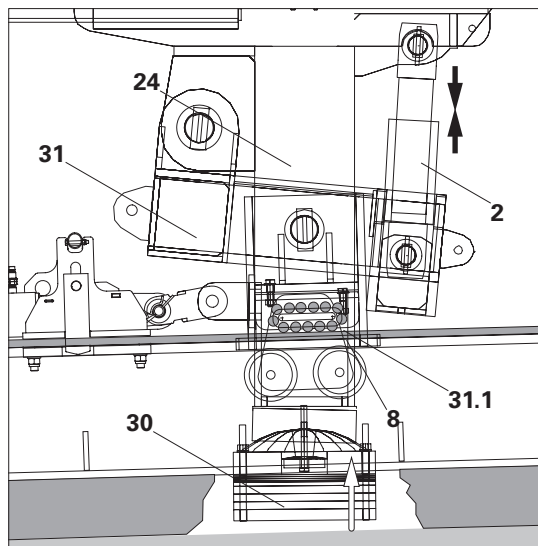

Fig. B4.05
- Front carriage is in drive mode. (Fig. B4.05)